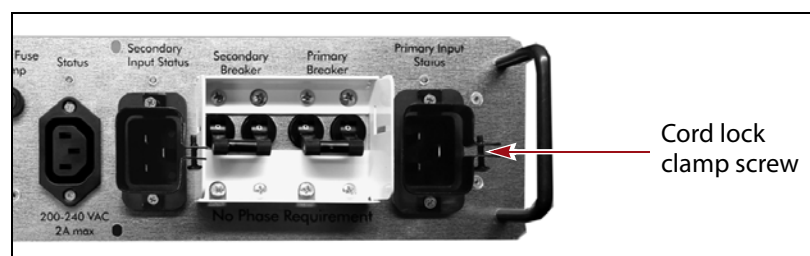

Figure 300 Install the cord locks on the power cords.
7. Place a cord lock over the connector on the end of the power cord that connects to the library. Orient the cord lock as shown in Figure 300.
9. Tighten the cord lock clamp screws (shown in Figure 300).